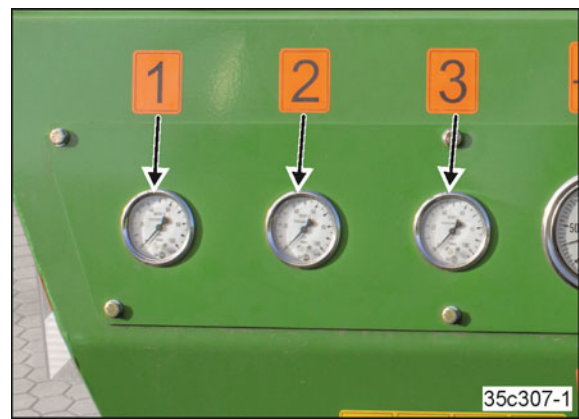

Fig. 161
3. The pressure gauges (Fig. 161/1-3) indicate